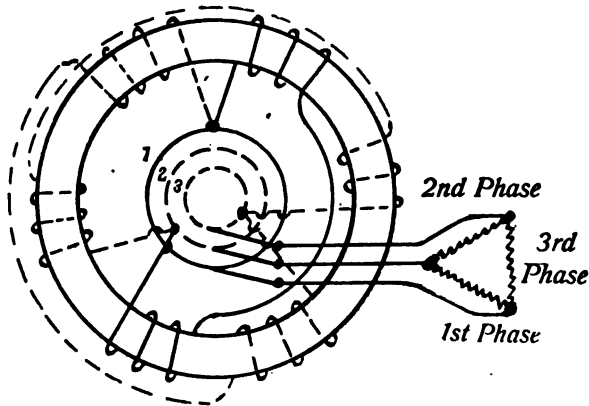
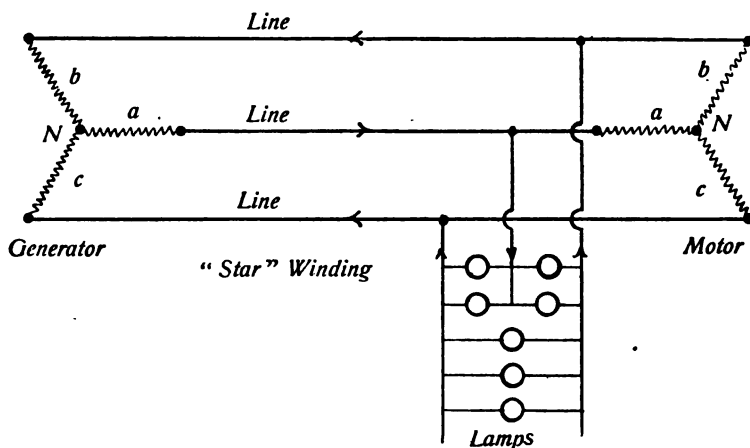
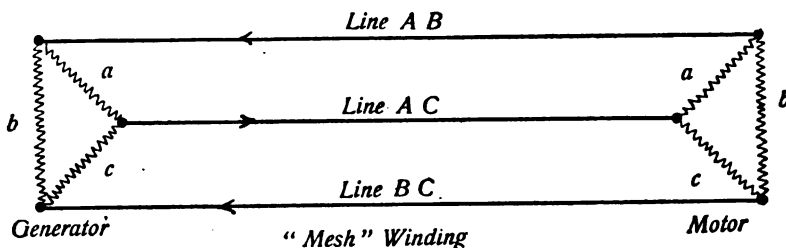

FIG. 74.—"Triangular" or "Mesh" Connection of a Three-phase Circuit.
FIG. 76.—“Star” Method of Polyphase Transmission of Power.
FIG. 77.—"Mesh" Method of Polyphase Transmission of Power.
*Figs. 74 and 75* are examples of three-phase circuits. In each case there are three collecting or slip rings. In *Fig. 74* it will be noticed that the six free ends of the coils of the generator are connected
The methods and connections for the transmission of power from the generators, as connected in *Figs. 74* and *75* to motors, &c., are illustrated in *Figs. 76* and *77*. In *Fig. 76* this represents the “**star**” method of winding and connections. *Fig. 77* represents the “**mesh**” grouping or method of connecting. In *Fig. 76* *N.* is the common junction or neutral, the other free ends being connected to the lines and carried to the motor. The figure shows the “**armature**” of the “**generator**” and the “**field coils**” of the “**motor**” connected by three main leads. When the current in *A.* is at its maximum,
then the currents in *B.* and *C.* coils are equal, and each is one half the value of *A.*, under which circumstances *B.* and *C.* leads, act as a return for *A.*. The three sets of coils in the "armature" of the generator and the motor field are sometimes joined in series, and the three junctions connected to the three main leads. This gives us what is known as the "**mesh**" grouping or method of winding (*Fig. 77*). It will be seen that the "mesh" winding approximates somewhat to a parallel method of winding when considered with respect to the external circuit, with the result that the "pressure" between the mains is less than the equivalent "**star**" grouping, the currents being correspondingly heavier. For transmission of power to great distances, where "**low**" current strength and correspondingly "**high**" pressure in the mains is essential, the "**star**"
Fig. 77 illustrates the “mesh” or “delta” connection. The voltage between the outer mains is equal to the phase voltage. Assuming that in these several cases the “phase voltage” is 100 and the “phase” current is 100 amperes, we find in the